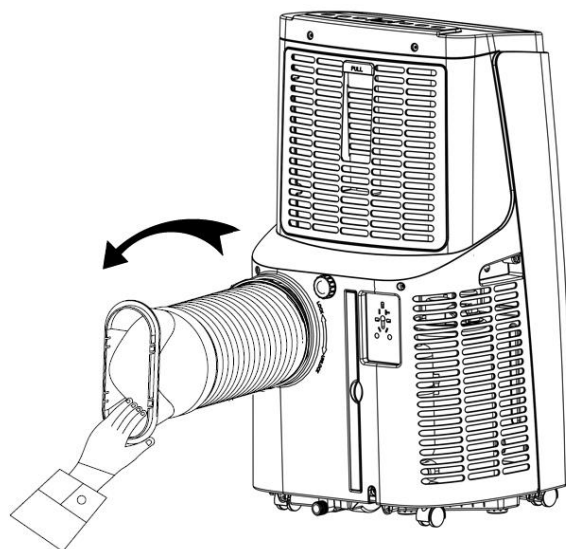

Fig. 1
1.1 Installation of the hot air outlet piping assembly (see Fig. 1)
- 2) Insert the outlet pipe assembly (the end of the outlet connector) into the groove of the ventilation hole in the rear panel of the air conditioning unit (push to the left) and complete the assembly as shown in Fig. 1.